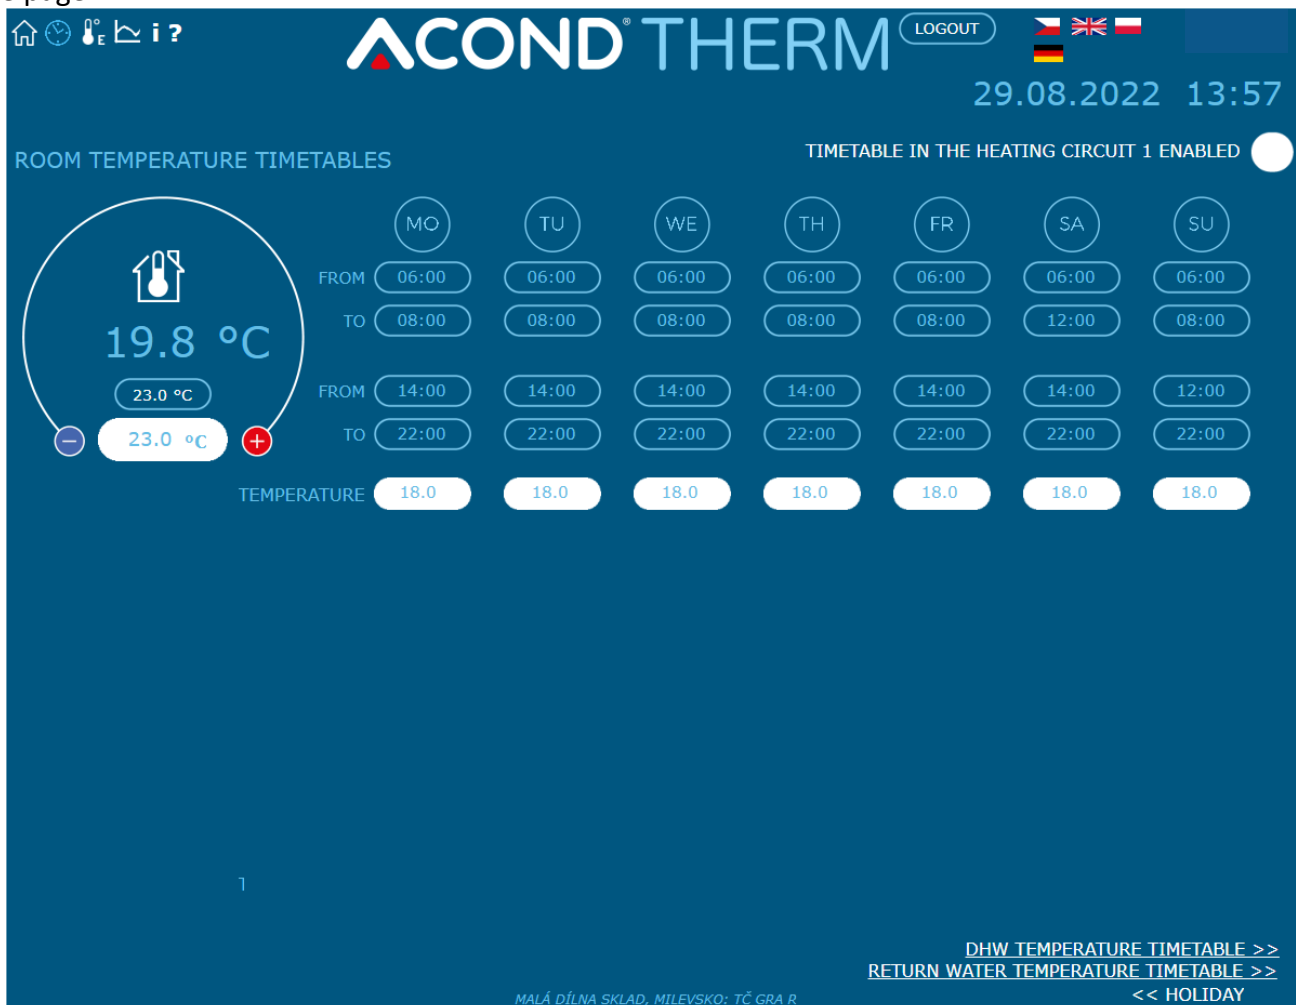

Fig 12: Room temperature schedule
2. **Timetables**  (**Fig 12**) allows setting the value of the automatic change of the desired temperature in the room (or the temperature in the storage tank in STANDARD control) according to the time of day. Here it is possible to implement e.g. a night temperature drop.